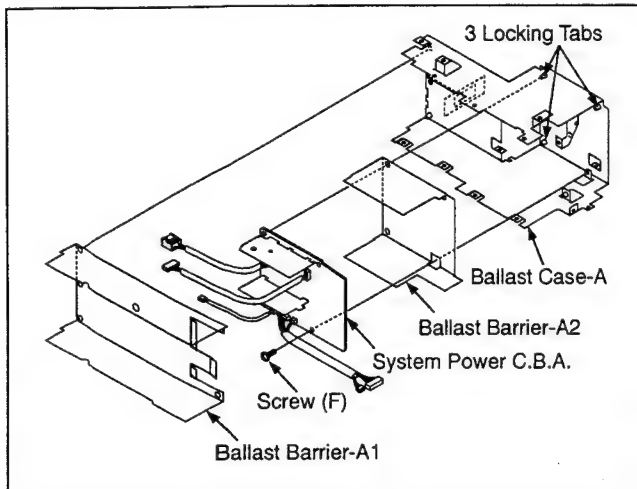

Fig. P8
After remove a screw (F), unlock 3 Locking Tabs to remove the System Power C.B.A. as shown in Fig. P8.